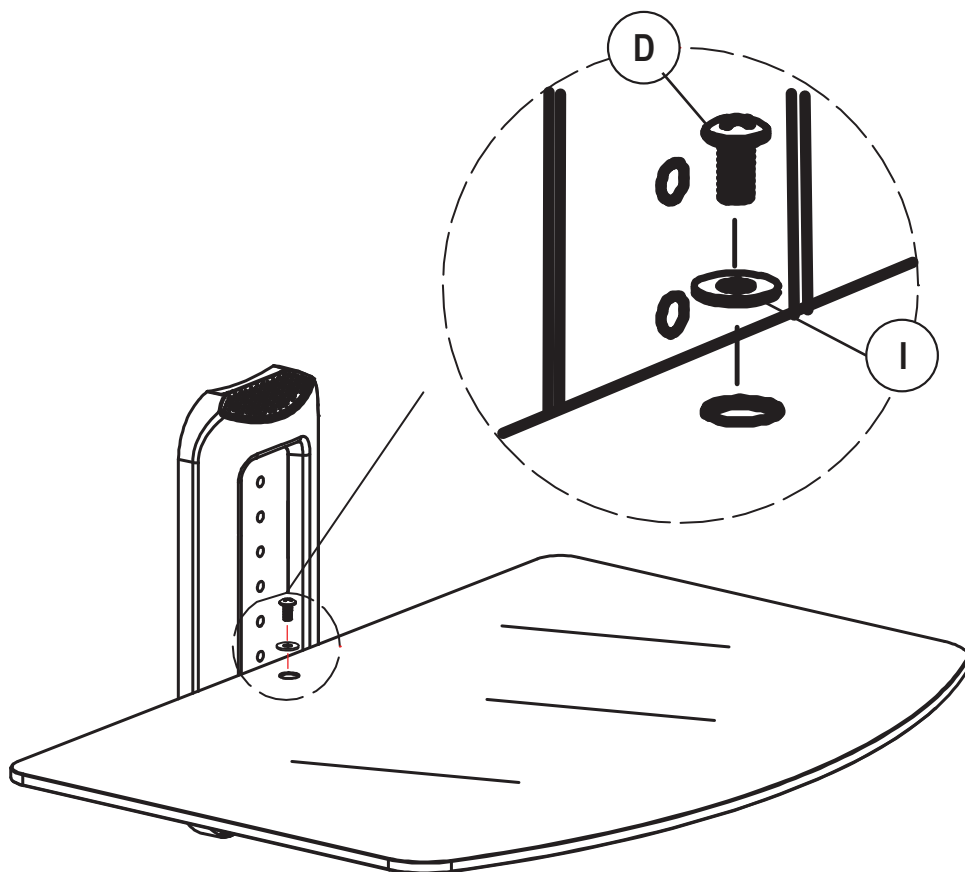

Fig. 9
Secure the **Glass Shelf (4)** by inserting the **Washer (I)** and **Shelf Security Bolt (D)** into the hole in the **Glass Shelf (4)** as shown in Fig. 9.